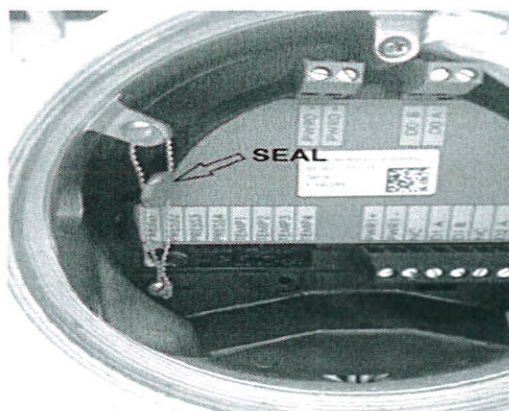

Figure 2-2: Electronic assembly and transducer connector cover seal
**Sealing of electronic components:** The electronics assembly and cover to the transducer connectors is sealed by means of a seal wire as shown in figure 2-2.